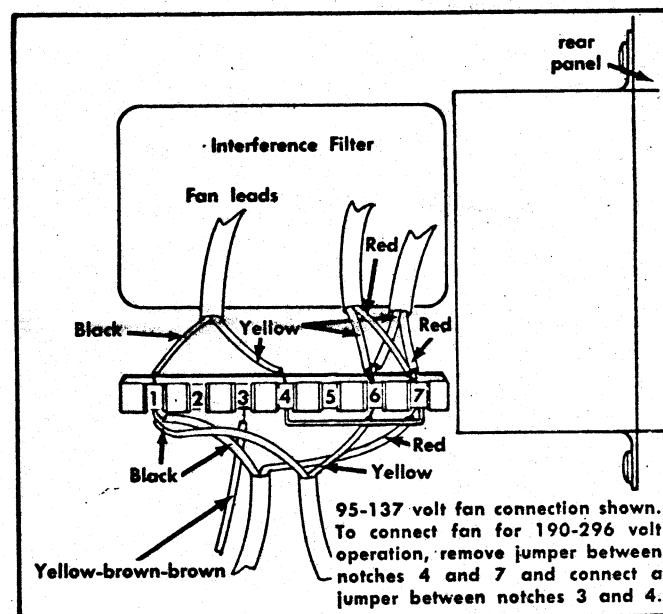

Fig. 2-1. Fan connections for 95-137 and 190-296 line-voltage ranges.
**Fan.** The cooling fan is powered by a 115-volt ac motor. If the instrument is converted, for example to operate from a 230-volt line, a change in the fan wiring must be made so that it operates from a 115-volt source. The correct connections for 95 to 137 and 190 to 296 volt operation are shown in Figure 2-1.